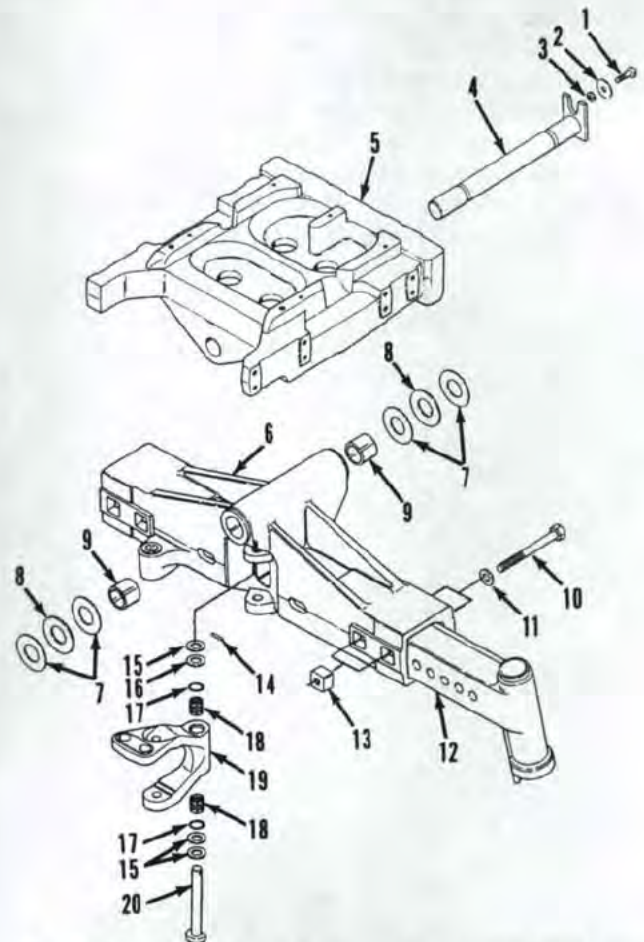

Fig. 3—Exploded view of axle main member, front support and related parts used on all two-wheel drive tractors.
5. REMOVE AND REINSTALL. To remove the front support (5—Fig. 3), first remove hood, grille and side panels. Disconnect air intake hose. Drain radiator and disconnect front wiring harness connector. Disconnect upper and lower radiator hoses, coolant filter hose and coolant recovery hose. Disconnect ether starting line from intake manifold. Remove hoses from clip on radiator, then remove air conditioning condenser and lay back on top of engine. Identify and disconnect oil cooler lines and remove oil cooler. Attach a hoist with lift straps to radiator support. Unbolt radiator support from front support and tilt radiator forward to clear fan as the assembly is removed.